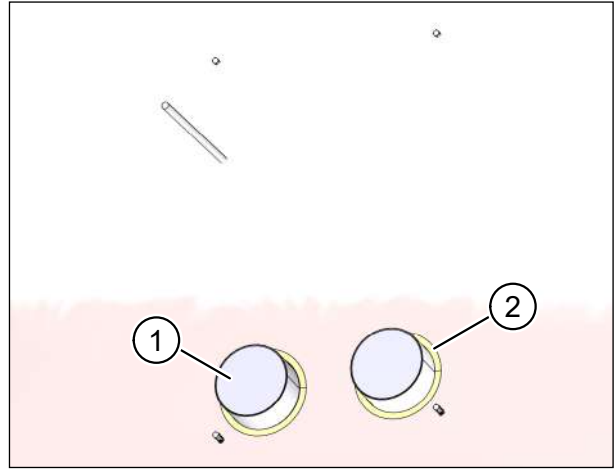

Fig. 28: Plastering the internal wall
- ▶ Before plastering, close off both ends of the ventilation pipes with adhesive tape (item 1 in Fig. 28) or another suitable material.
- ▶ Trim the expanding foam (item 2 in Fig. 28) flush with the unplastered wall.